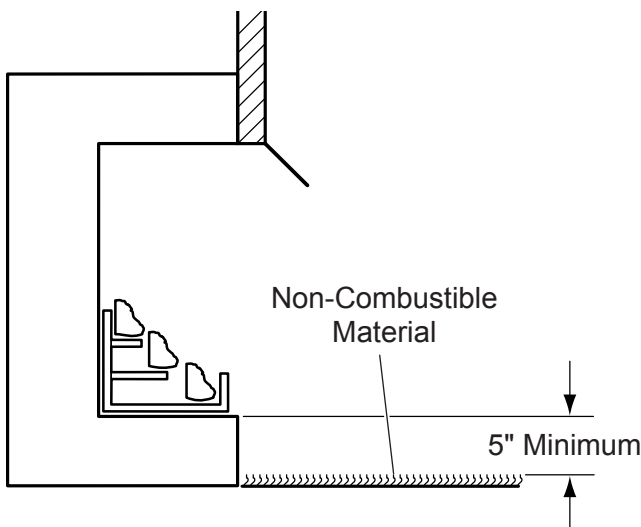

Figure 7 - Minimum Clearance above Combustible Flooring
5. **Floor clearance:** This inner chamber firebox floor must be installed at least 5" above any combustible flooring material, such as carpeting or asphalt tile, which is closer than 14" to the base of the firebox. See Figure 7.